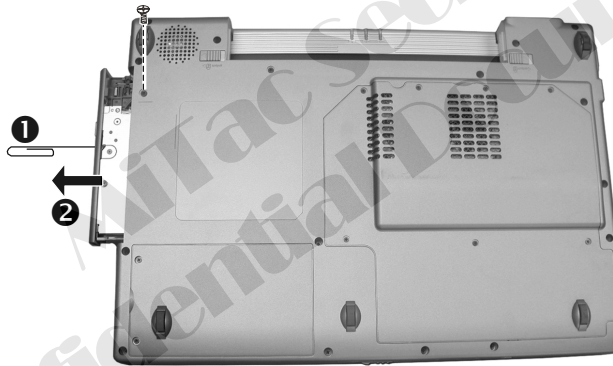

Figure 2-10 Remove the CD/DVD-ROM drive
2. Remove the one screw fastening the CD/DVD-ROM drive. (Figure 2-10)
3. Insert a small rod, such as a straightened paper clip, into CD/DVD-ROM drive's manual eject hole (❶) and push firmly to release the tray. Then gently pull out the CD/DVD-ROM drive by holding the tray that pops out (❷).